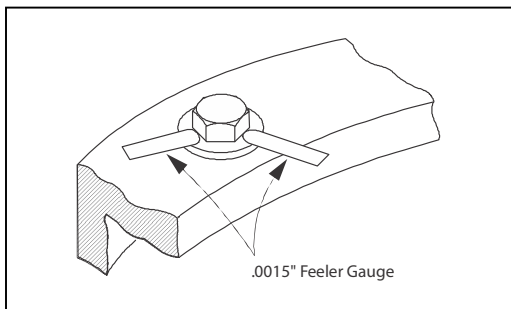

Figure 3-37. Swing Bearing Bolt Feeler Gauge Check
- b. At the positions indicated on Figure 3-37, try and insert the 0.0015 in. (0.0381 mm) feeler gauge between the bolt head and hardened washer at the arrow indicated position.
- b. Try and insert the 0.0015 in. feeler gauge between bolt head and hardened washer at position shown in Figure 3-37.
- d. Try and insert the 0.0015 in. feeler gauge between bolt head and hardened washer at position shown in Figure 3-37.